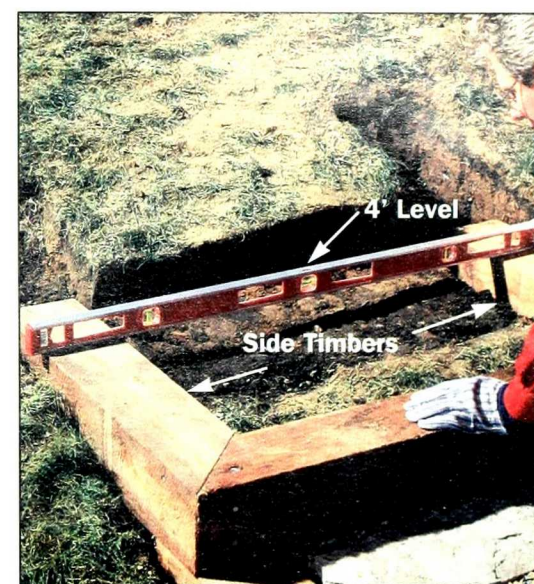

Figure 6: Check the side timbers for level by placing a 4-foot level across the step. Raise low timbers by adding fill rock under them.
- Position the side timbers. Check for level across the side timbers (Figure 6) and if level, secure the mitered corners with four 6-inch pole barn spikes (Figure 7).